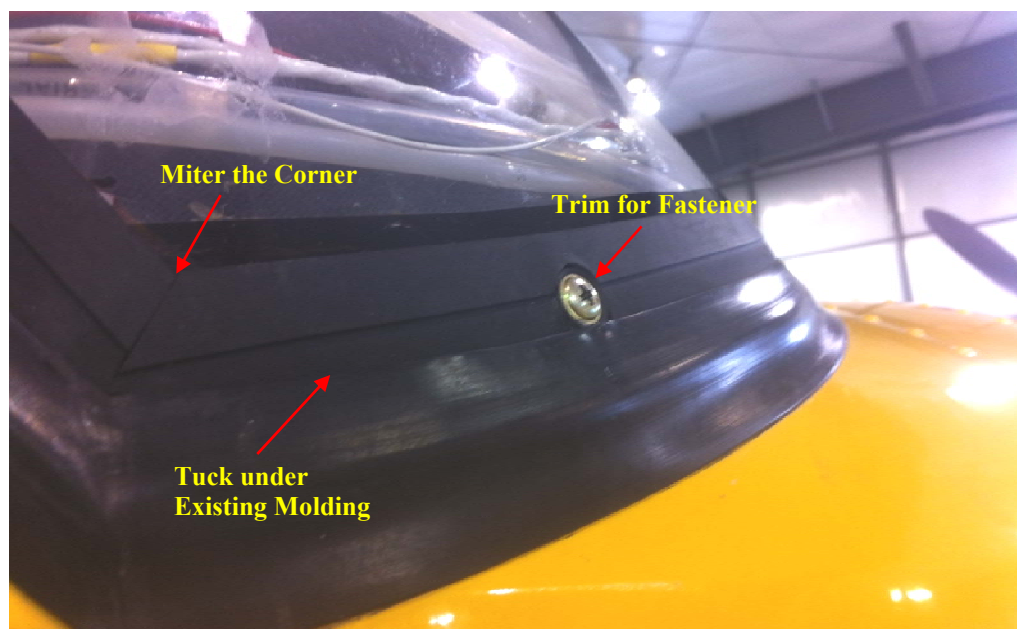

Figure 5-14: Installed Windshield Stripping
3. Temporarily align the rubber windshield stripping (P/N 100-990-0065-D01) along the marked edges. Trim pieces of the windshield stripping into three separate lengths (one for the top, one for the bottom and one for the outside edge). Trim the corners of the stripping to ensure no overlap and trim around the fastener (refer to **Figure 5-14**). Mitering the corners is acceptable with a trim tool, such as scissors or a knife.
7. Slide the edge of the windshield stripping underneath the already-installed molding. Refer to **Figure 5-14** for a final view of the installed stripping.